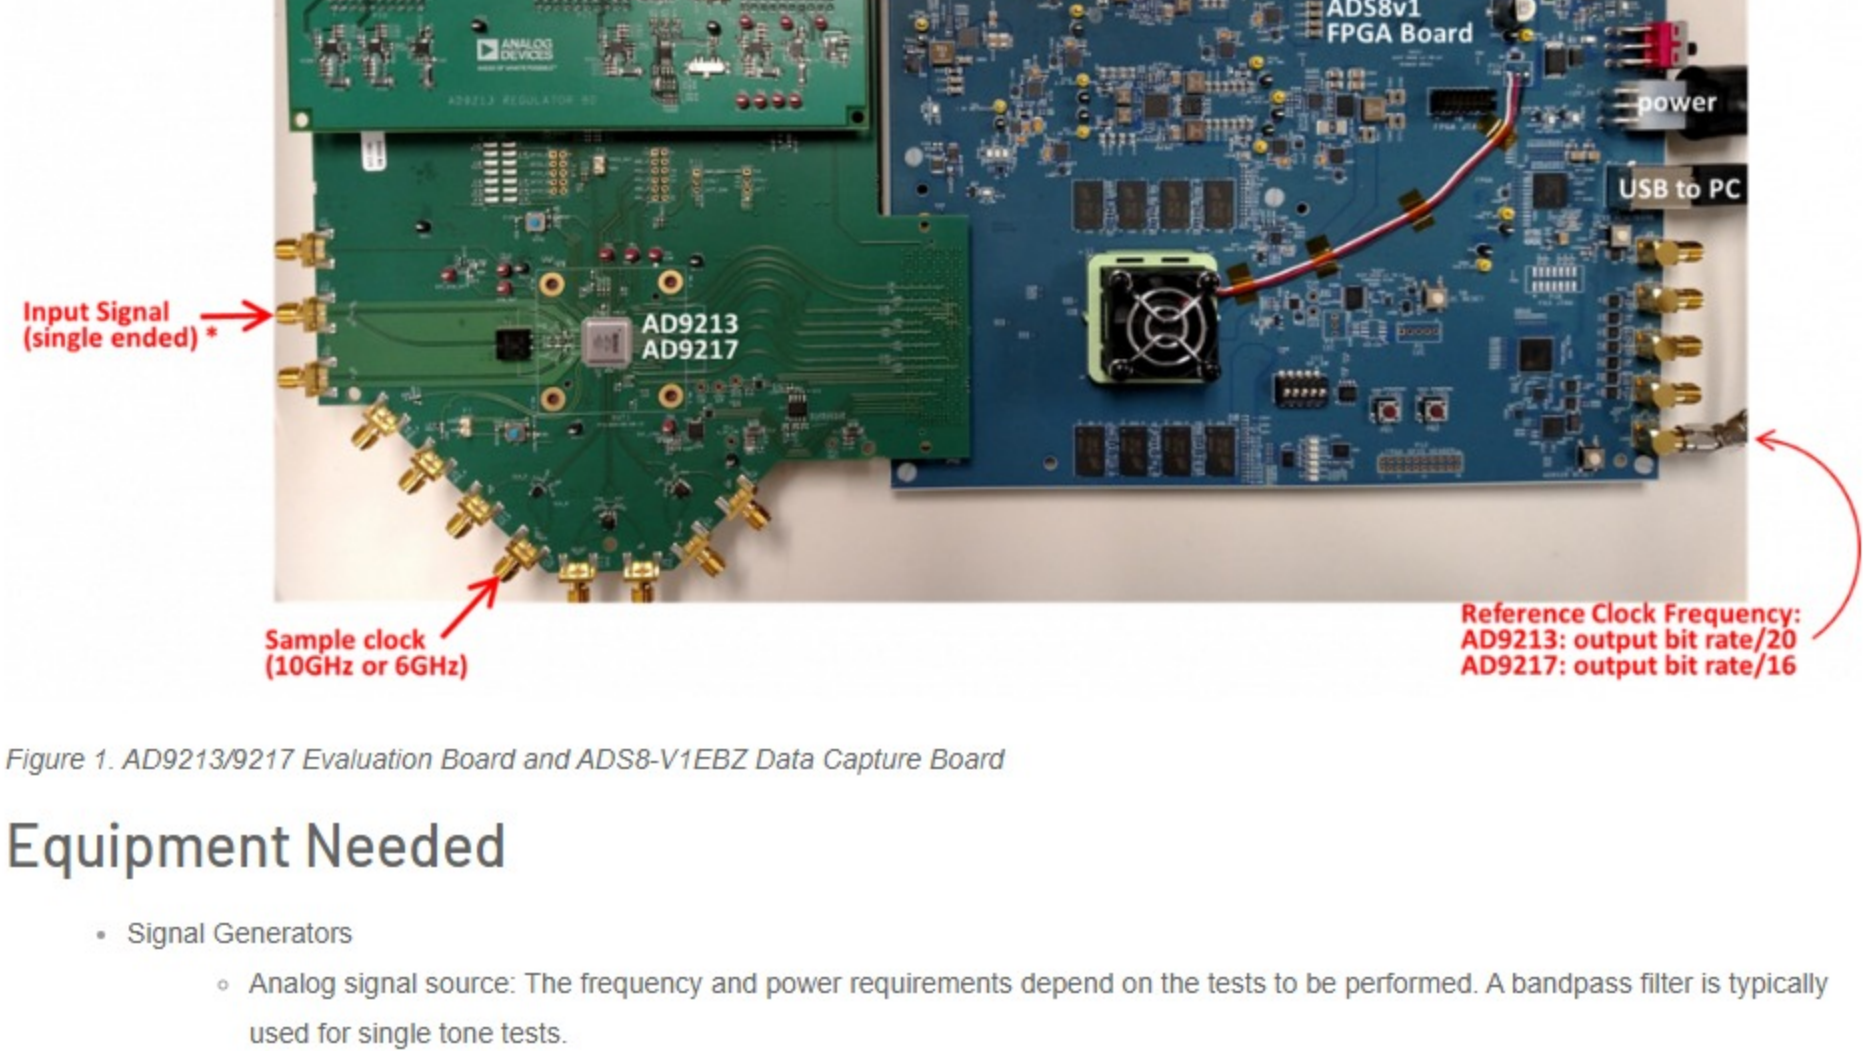

Figure 1. AD9213/9217 Evaluation Board and ADS8-V1EBZ Data Capture Board
- Connect signal, clocks, power, and USB cables to the boards as shown in Figure 1.
- Note: In Figure 1 the input signal is shown being applied to RF connector J3. The trace from J3 goes to the balun where the single-ended signal is converted to differential. On some board revisions the trace to the balun comes from RF connector J2. In these cases, the input signal must be applied to J2.